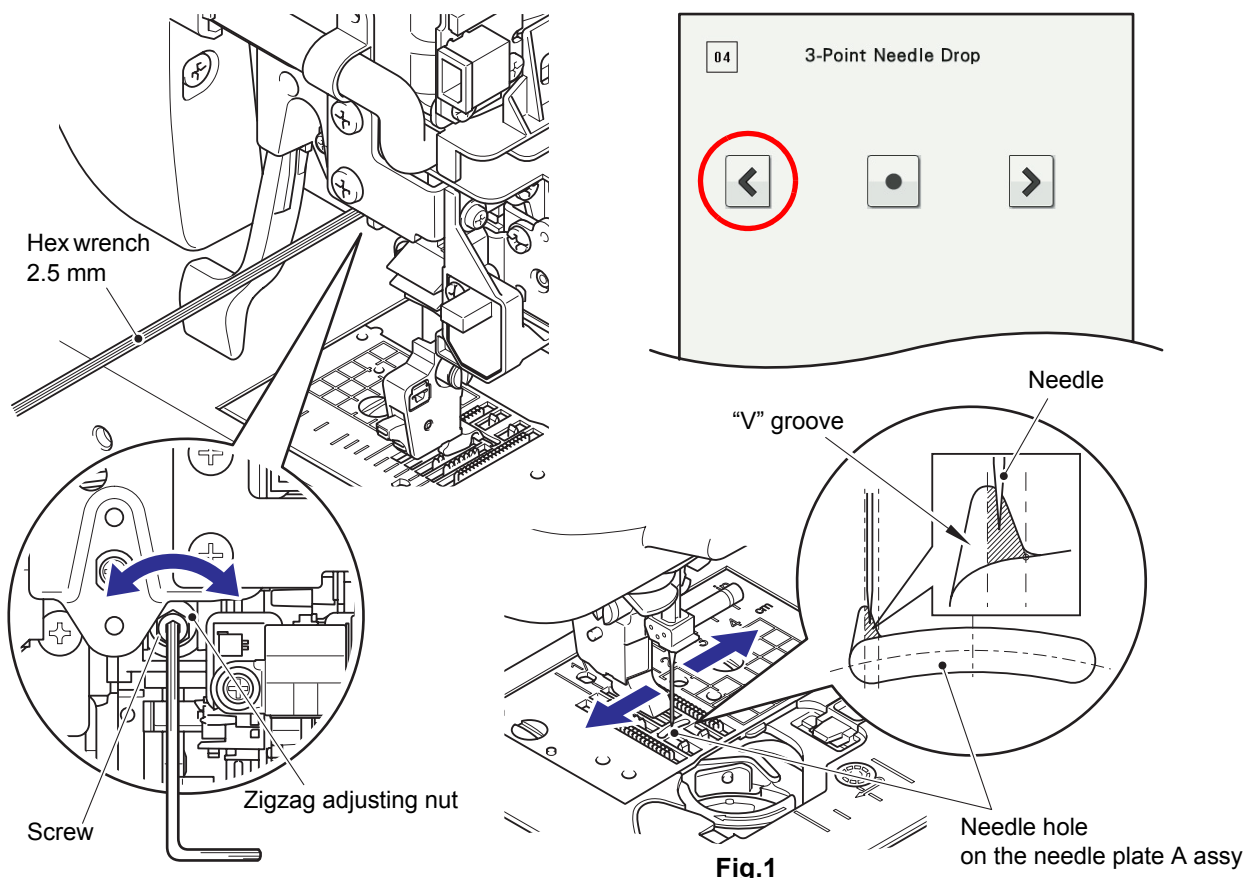

Fig.1
8. Turn the zigzag adjusting nut to adjust the position of the needle point. (Fig.1)